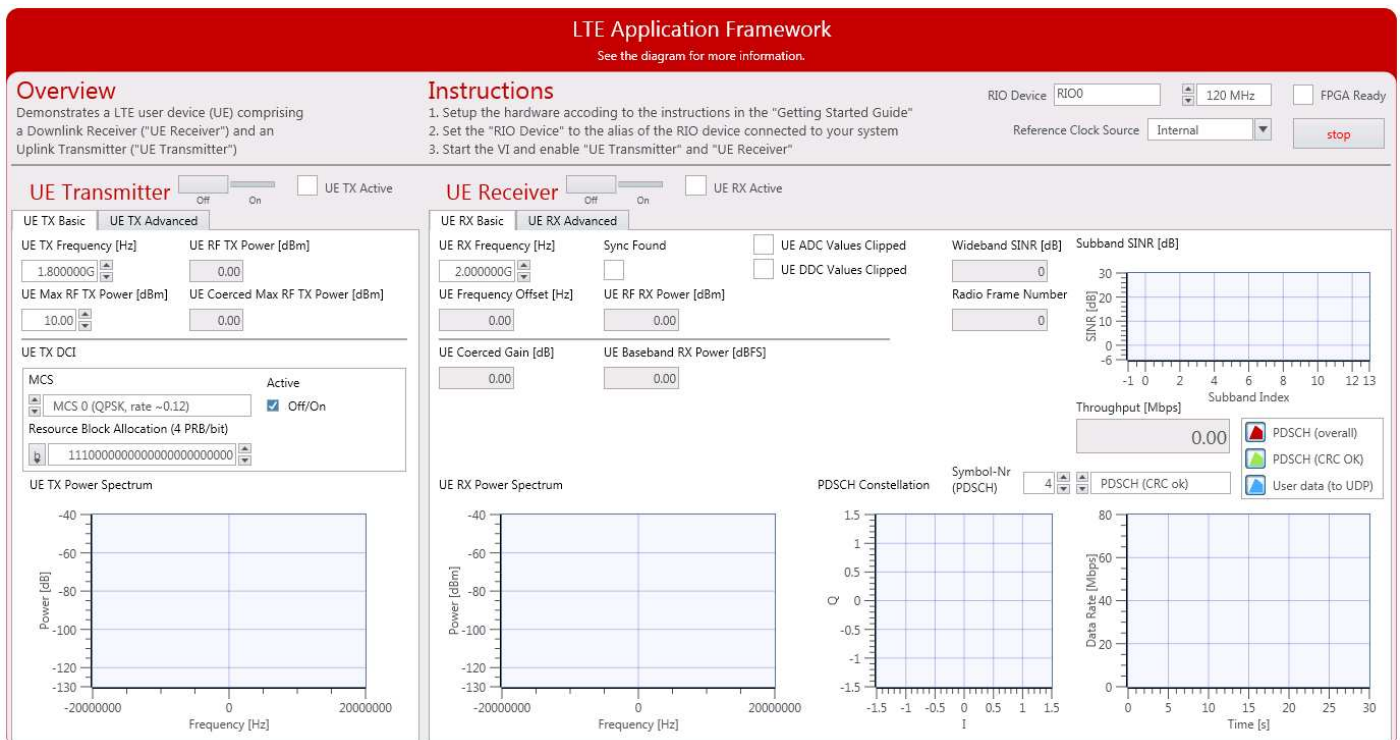

Figure 14 Front panel of LTE Host UE.gvi
9. Within that project, open the LabVIEW top-level host VI for the UE operation mode, LTE Host UE.gvi. The front panel of this VI is shown in Figure 14.